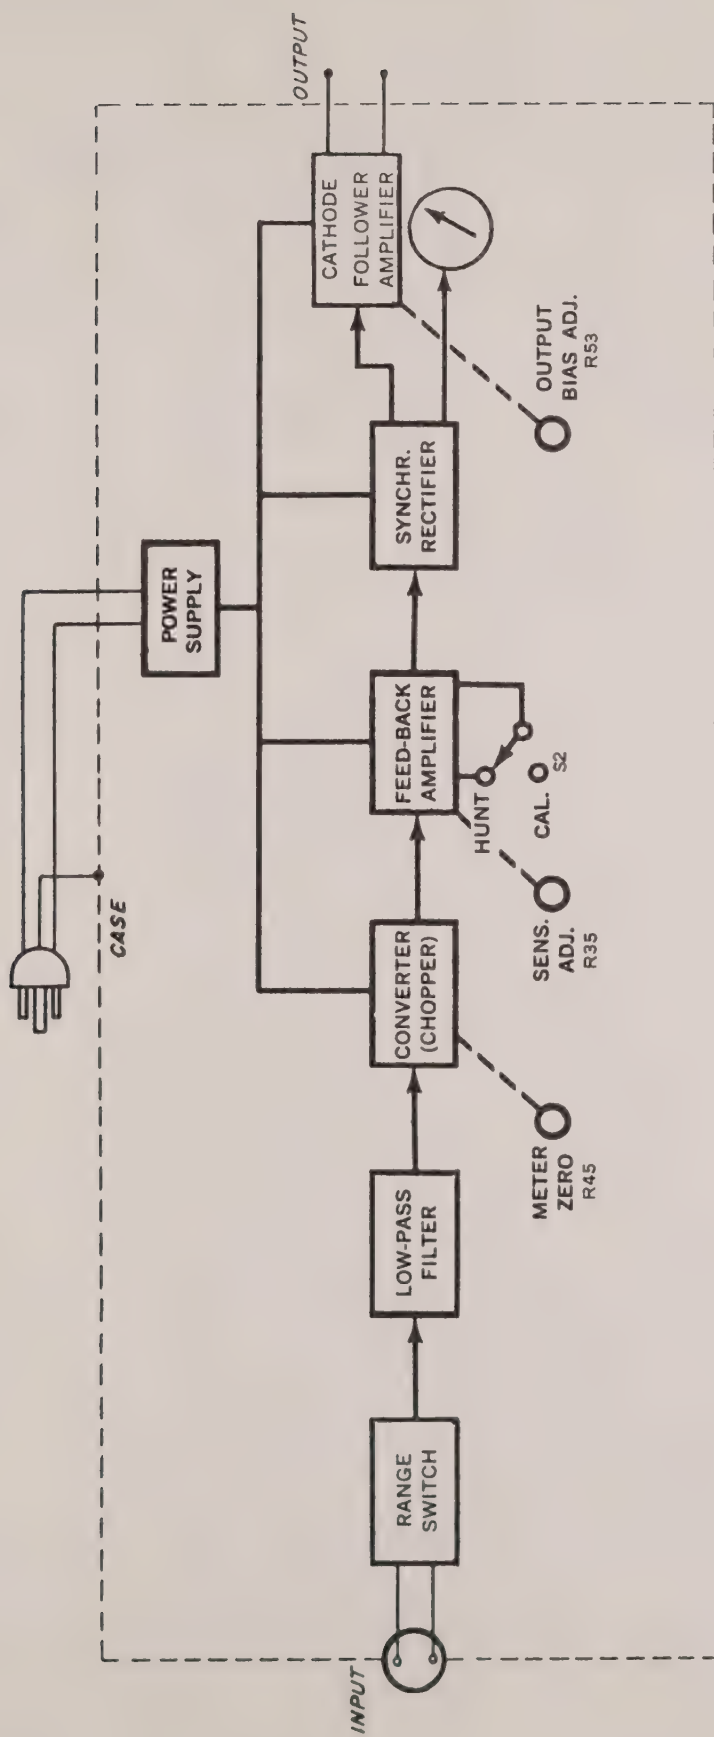

Fig. 2
4.1.1 A simplified block diagram is shown in Figure 2. The circuit consists of an input range switch; a filter to reduce the effect of the external hum pick-up; a chopper which converts the dc to ac of the power line frequency; a four stage negative feedback amplifier; a transistorized synchronous rectifier that reconverts the amplified ac to dc; a zero-center dc microammeter indicator; a cathode follower output amplifier; and a power supply.